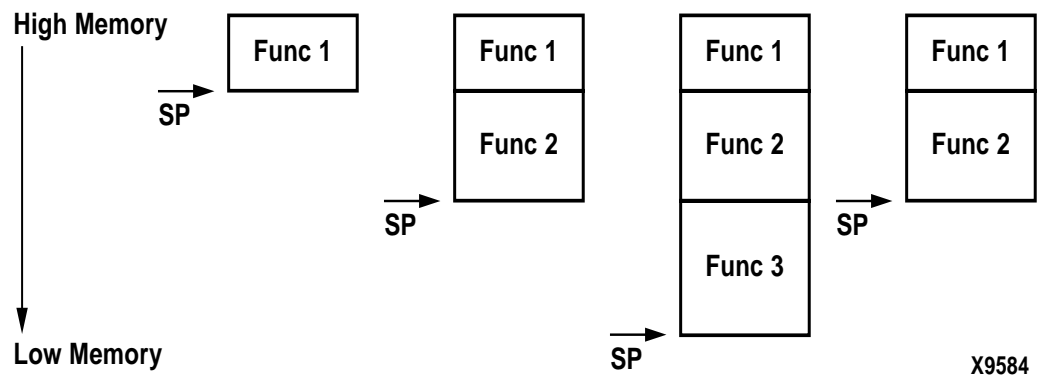

Figure 3-2: Stack Frame
Consider an example where Func1 calls Func2, which in turn calls Func3. The stack representation at different instances is depicted in Figure 3-2. After the call from Func 1 to Func 2, the value of the stack pointer (SP) is decremented. This value of SP is again decremented to accommodate the stack frame for Func3. On return from Func 3 the value of the stack pointer is increased to its original value in the function, Func 2.
Details of how the stack is maintained are shown in Figure 3-2.
Refer to Figure 3-2. The parameters for Func 2 are stored either in the registers R5 through R10 or on the stack frame allocated for Func 1.